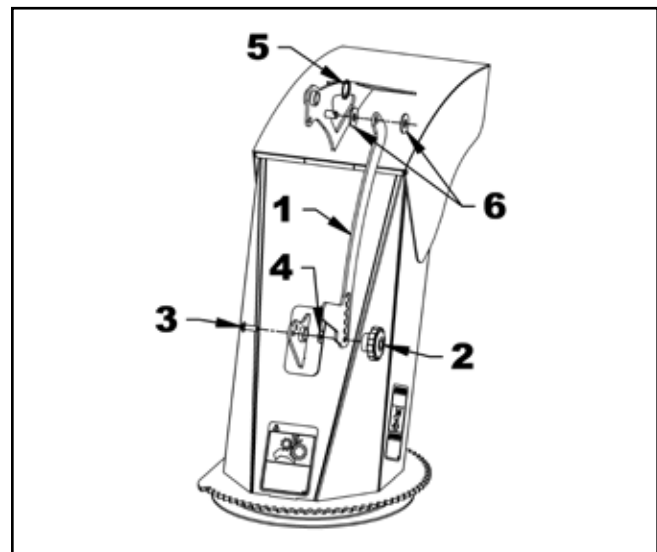

**Figure 36.** Store Hoses
- Connect the hoses to the tractor, raise and lower the snow blower, and rotate the chute to all positions to confirm the hoses are long enough and do not interfere with any component. Attach the hoses with a nylon tie (6) halfway between the cylinder and the hose support.
**NOTE:** Figure 36 - The hose support is equipped with a hose storage slot. When disconnecting the quick couplings from the tractor, install the dust caps on the quick couplers (item 1). Insert the hoses with the dust caps into the top opening (item 2) of the hose support and slide down into the slot.